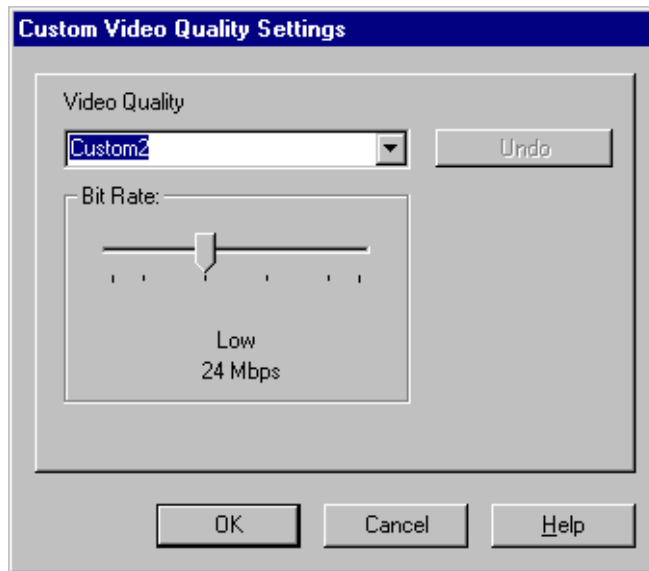

Figure 32. JPEG Custom Video Quality Settings dialog box
- For JPEG (see Figure 32 and Table 2) select a video quality with the slider. You can move the slider with the mouse or arrow keys.